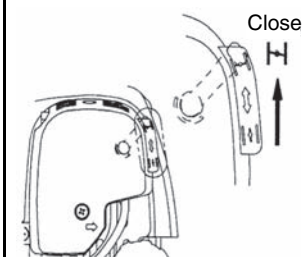
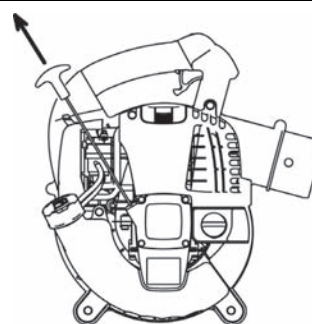

Figure 3
Figure 4
- Refill: After inspection if the oil is below the lower limit add oil through the same opening that the oil cap was removed. See Figure 4 on how to orient the engine to refill the oil.
- (2) You may need to refill oil approximately every 10 hours of use (every 10 refuellings).
- (3) If the oil changes in color or mixes with dirt, replace the oil. (For the interval and method of replacement, refer to P. 14)
- (4) Lift the choke lever to the closed position (Figure 3).
- (5) Hold the main handle with left hand to prevent the engine from moving.
- (6) Pull out slowly the starter handle till a certain resistance is felt. Return the starter handle backward once from this position, then pull it out with force (Figure 4).